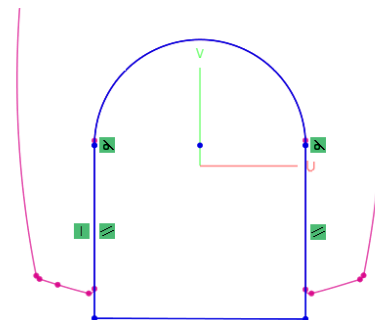

Figure 160
- **Adjust** the sketch entities until the sketch looks like **Figure 160**.